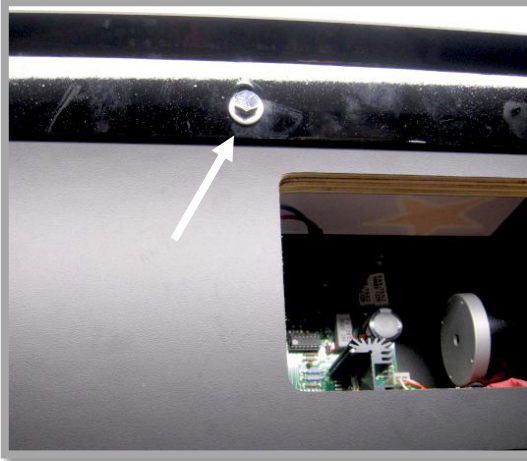

Fig. 7
3. Remove the ¼-20 Bolt that is located on the inside rear panel of the Jump Assembly (see Fig. 7).